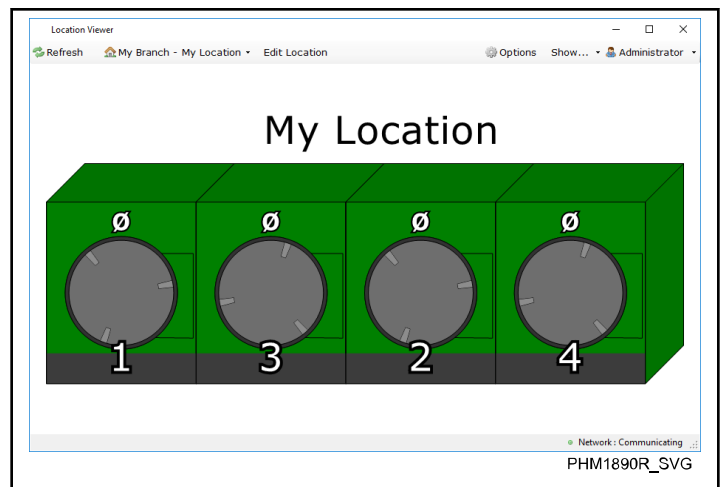

Figure 59
1. From the "Start" menu, select **All Programs > Quantum Vended Software > Location Viewer**. Refer to *Figure 59*.